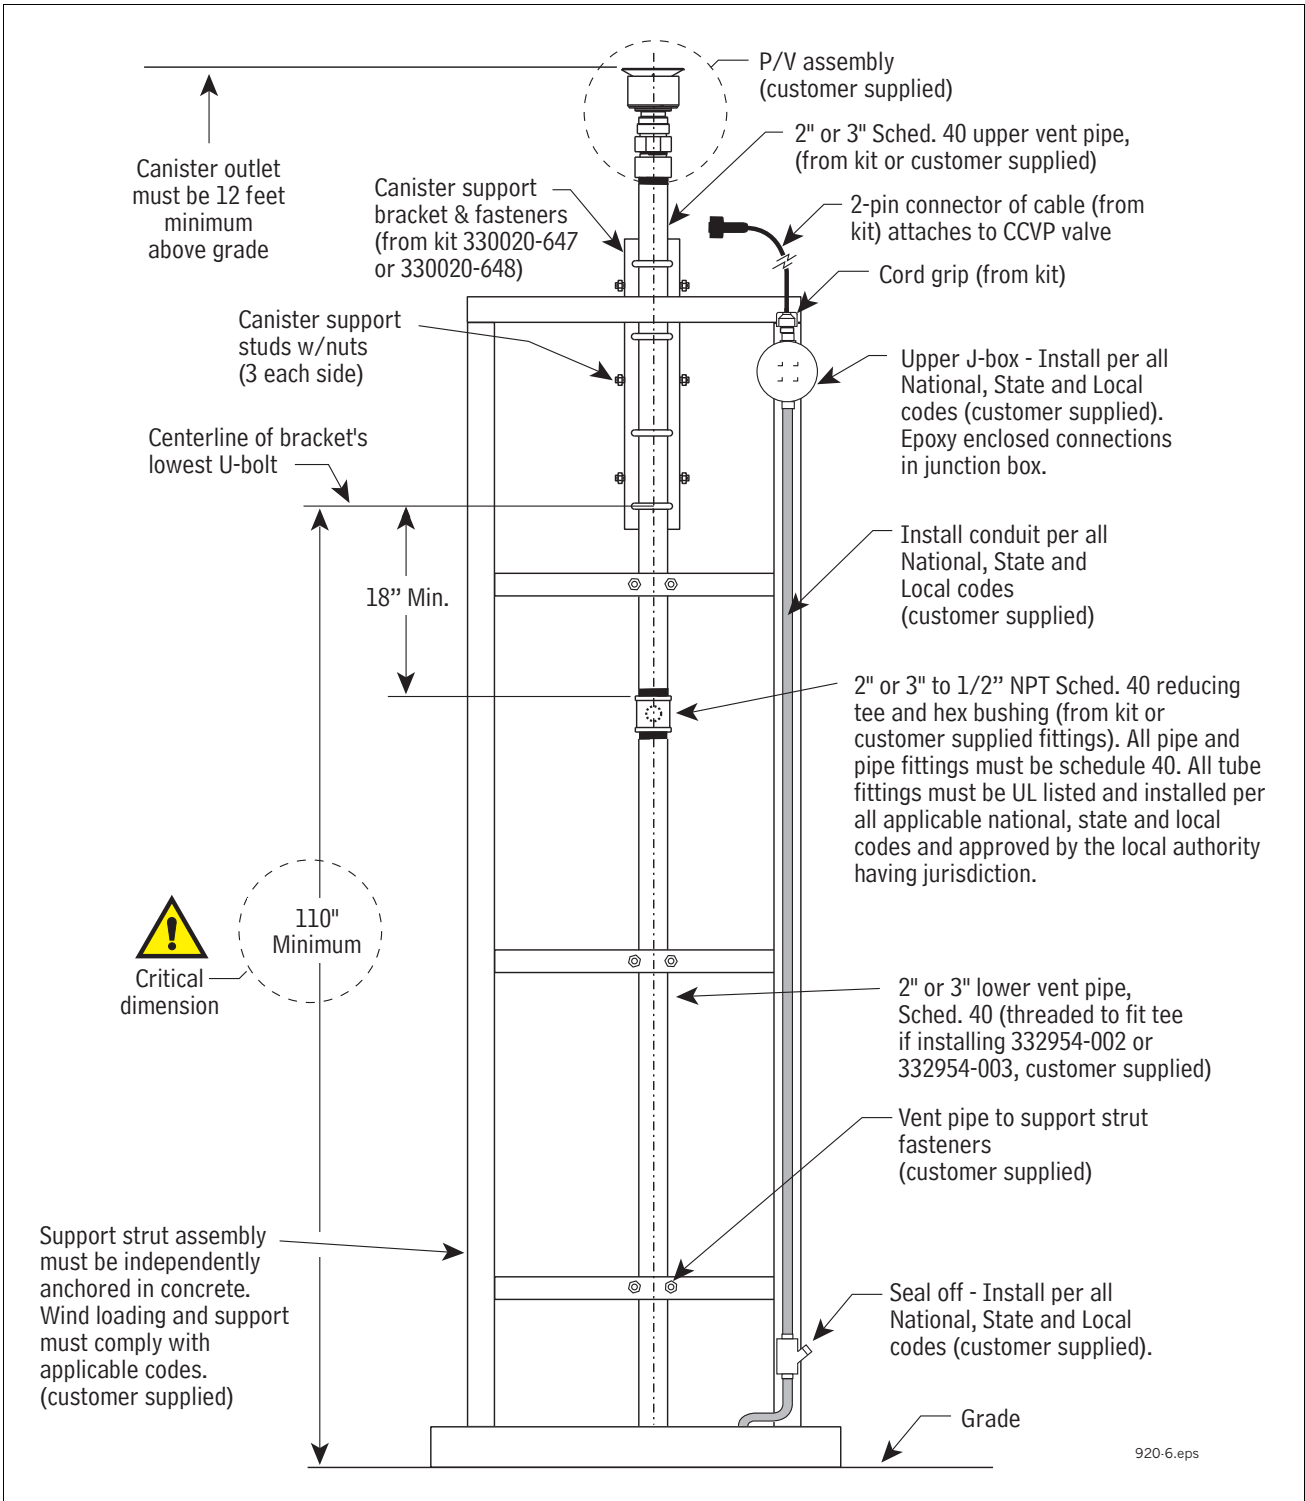

Figure 1. Typical direct wired installation example
6.  **IMPORTANT! To ensure that the canister outlet is 12 feet (minimum) above grade, the CCVP mounting bracket must be positioned according to dimensions shown in Figure 1 and the U-bolts tightly clamped to the support structure before mounting the canister. The mounting bracket must be centered in line with the outlet of the tee before installing the CCVP.**
10. Install weather tight junction box, seal off and conduit per all NEC, state and local codes (see example installation in Figure 1).